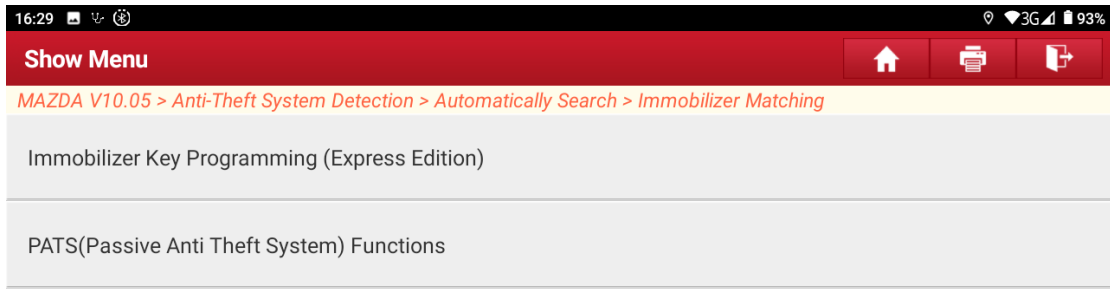

Figure 7
5. Choose [PATS (Passive Anti-theft System) Functions]. See Figure 7.